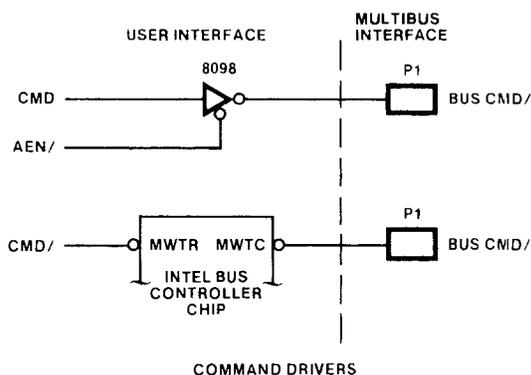

Figure 5-2. Command Drivers
**5.1.1.1 BUS COMMAND LINES** Figure 5-2 shows two types of MULTIBUS command drivers which provide high drive and three-state characteristics. Important attributes of command drivers are: